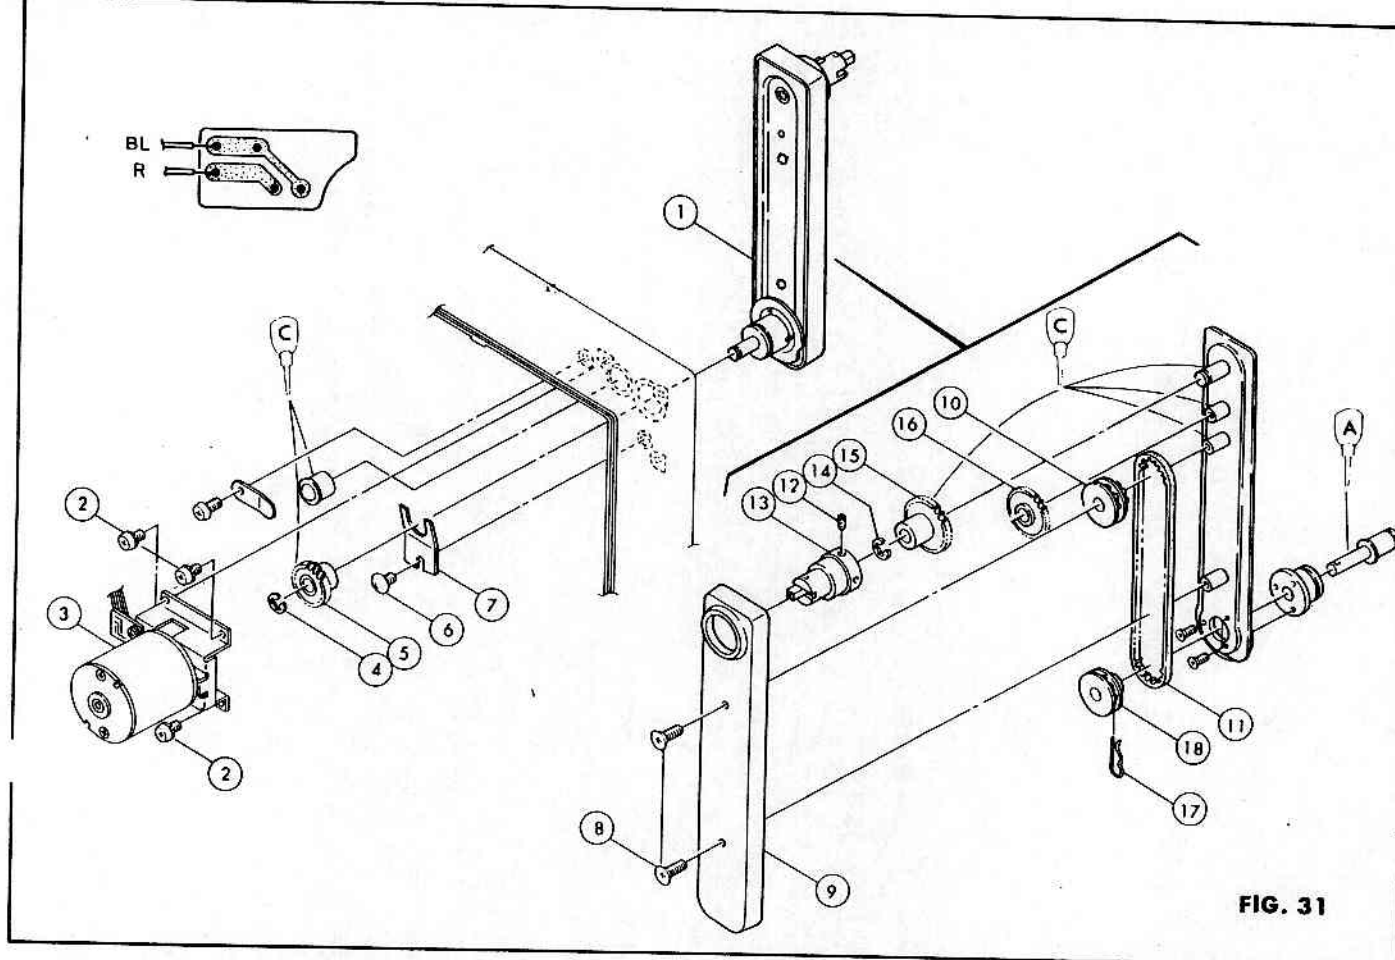

FIG. 31
TROUBLESHOOTING: (Refer to Fig. 31)
1. When repairing the inside only of rear arm, unscrew the (8)x2 and remove the (9).
4. For further disassembly, refer to Fig. 31.